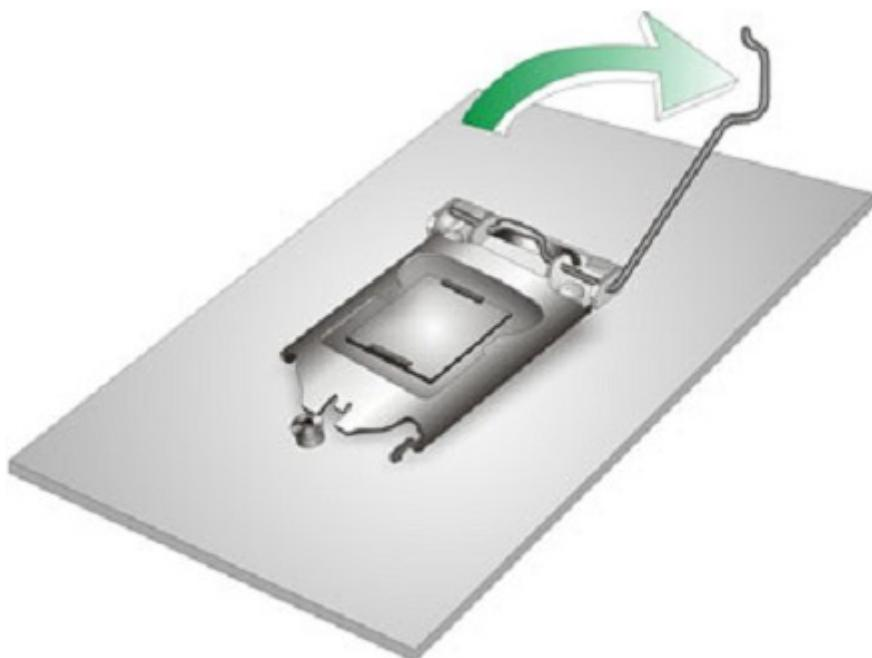

Figure 4-1: Disengage the CPU Socket Load Lever
- Step 1:** **Disengage the load lever** by pressing the lever down and slightly outward to clear the retention tab. Fully open the lever. See **Figure 4-1**.